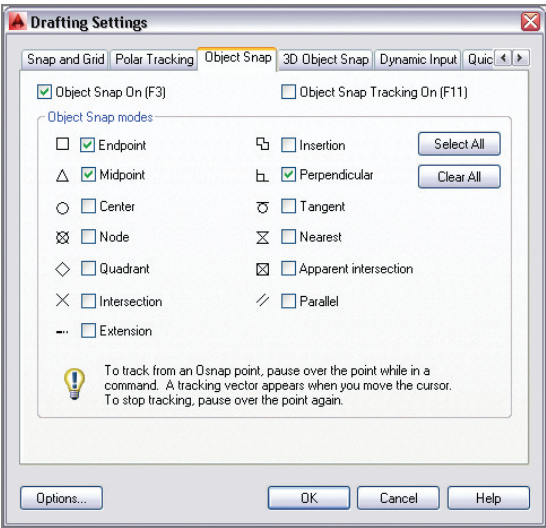

FIGURE 3.12 Turning on a few Running Object Snap modes
6. Toggle on Object Snap on the status bar. Right-click the same icon, and choose Settings from the context menu. Click the Clear All button, and then select Endpoint, Midpoint, and Perpendicular (see Figure 3.12). Click OK.